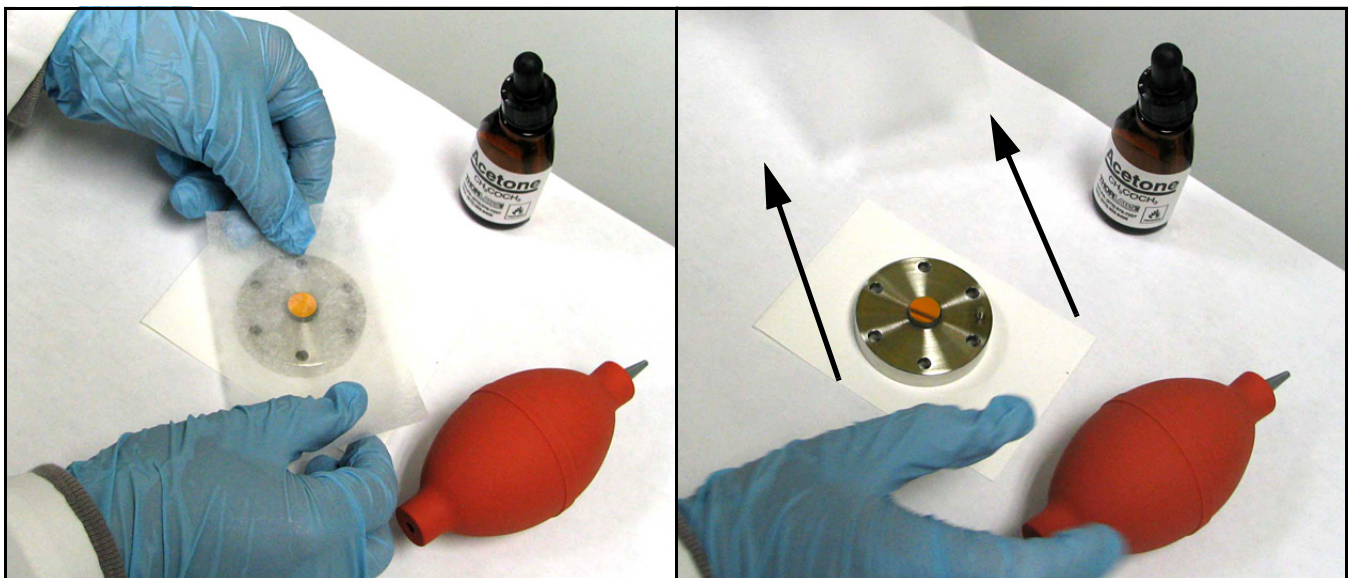

Figure 84: Dragging the Wet Lens Tissue Across the Mirror
- Place the wet lens tissue on top of the mirror and drag it horizontally across the surface of the mirror (see *Figure 84* below), ensuring minimal liquid residue/streaks are left behind on the mirror surface.